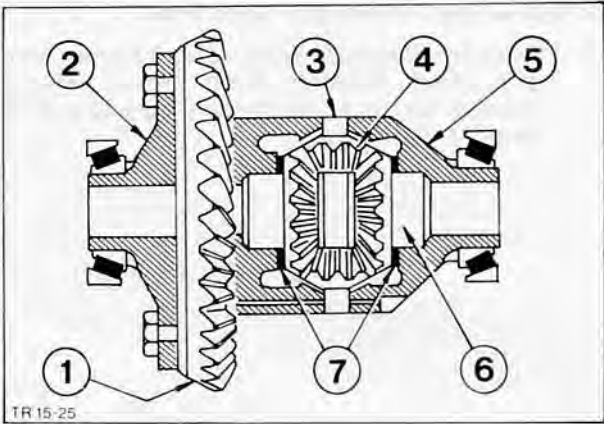

Fig. 106. Differential gear train
10. Install differential gears and side gears in the differential housing. Fit side gears with shims and differential gears with thrust washers and differential cross or shaft in housing halves in the reverse order. Bring differential housing halves together, Fig. 106.